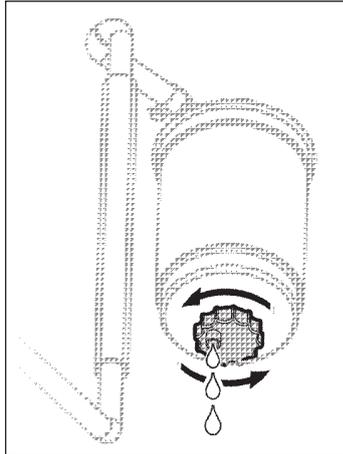

Fig. MW7: Draining the fuel filter
- ➔ Open the shut-off valve by turning the plastic wheel to the right until the water flows out of the fuel filter (*Fig. MW7*).